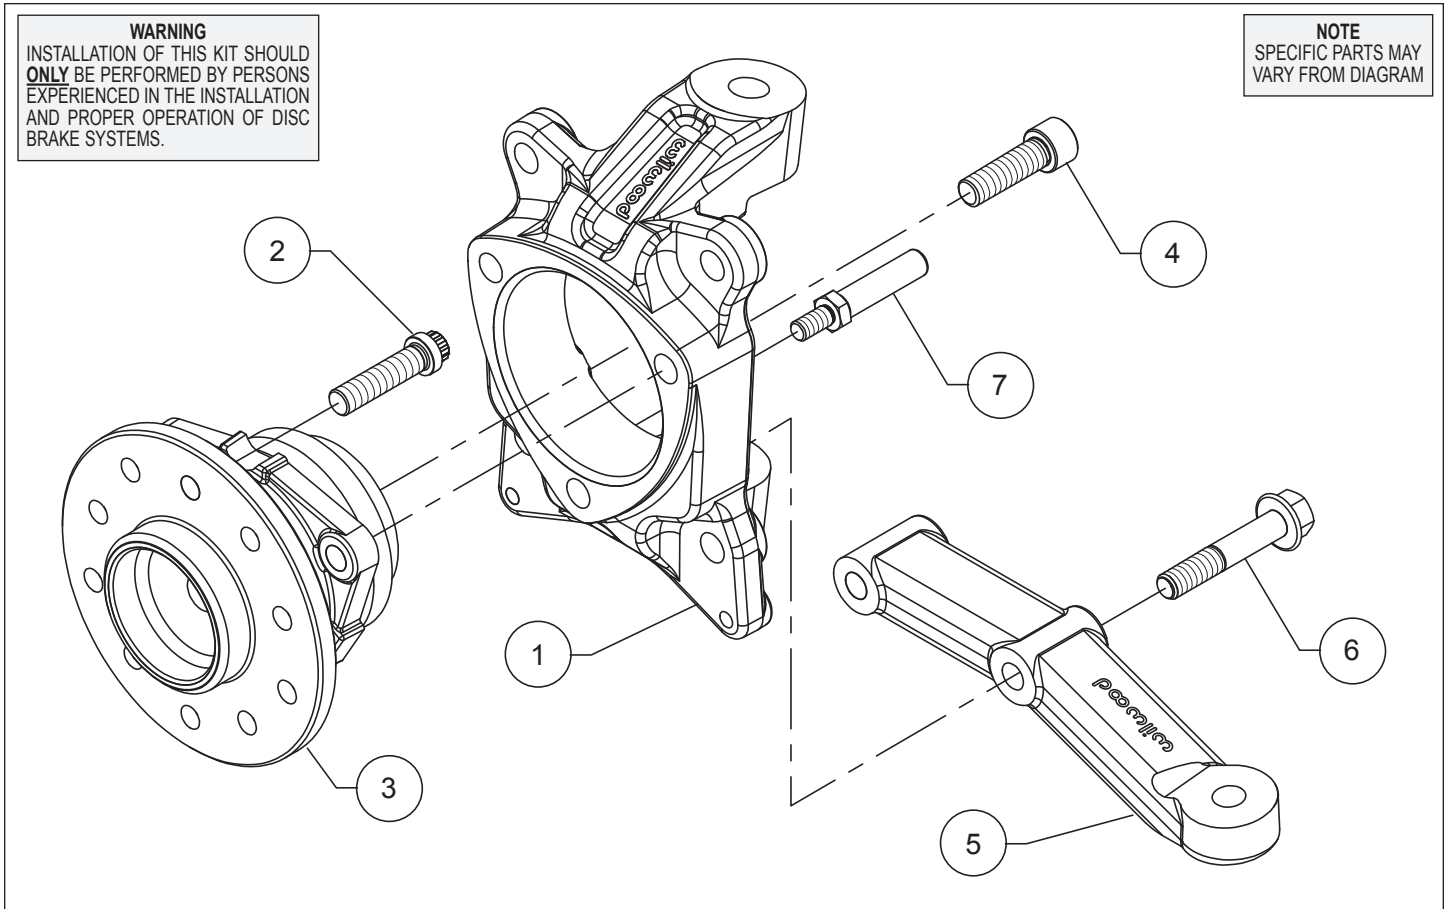

Figure 1. Typical Installation Configuration
Assembly Instructions (numbers in parenthesis refer to the parts list and Figure 1 on the preceding pages):
- Apply red *Loctite*[®] 271 to the wheel stud (2) threads and install into the hub (3), Figure 1, and Photo 1. Torque to 77 ft-lb.
- Attach the steering arm (5) to the back side of the spindle (1) using bolts (6), Figure 1 and Photo 4. Torque bolts to 90 ft-lbs.
- Install the steering stop bolt (7), Figure 1 and Photo 6. Torque to 25 ft-lbs.